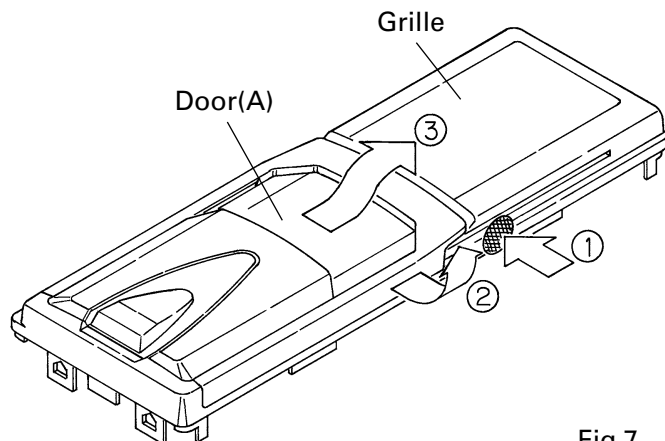

Fig.7
1. Remove the Door(A) in the direction of arrow② while pushing the Grille in the direction of arrow①, the slide is done as it is in the direction of arrow③ and remove the Door(A). (Fig.7)